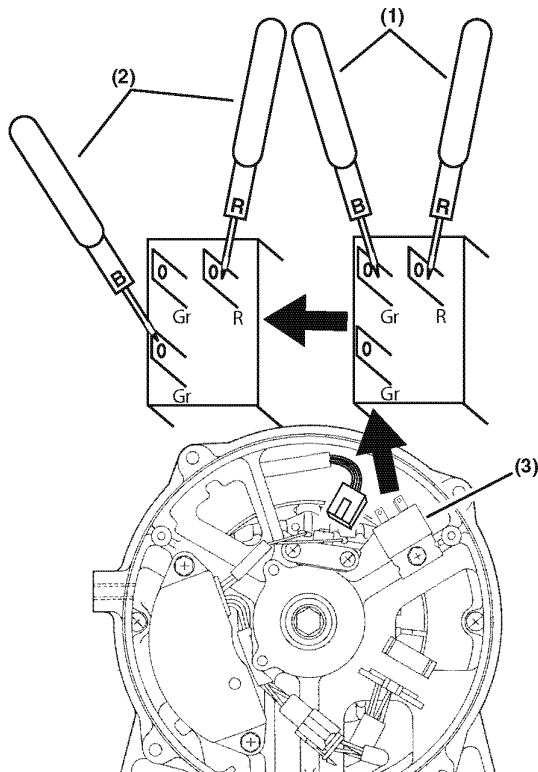

Figure 7-26
1. With the engine not running, disconnect the 4 terminal connector from DC rectifier (**Figure 7-26, (3)**) (only three leads are actually used in the connector, gray, gray and red).
2. Use an Ohm meter and check the resistance of the DC rectifier between the gray and red terminals on the rectifier (**Figure 7-26, (3)**) (use the matching lead connector to identify the terminals). Reverse the leads of the meter to measure resistance in both directions, resistance should only be present in one direction. Measure between the red lead and each gray lead and their opposites for a total of four total measurements.
1. If resistance (continuity) can be measured in both directions (**Figure 7-26, (1)**), replace the rectifier and re-test.
2. If resistance (continuity) can be measured in both directions (**Figure 7-26, (2)**), replace the rectifier and re-test.